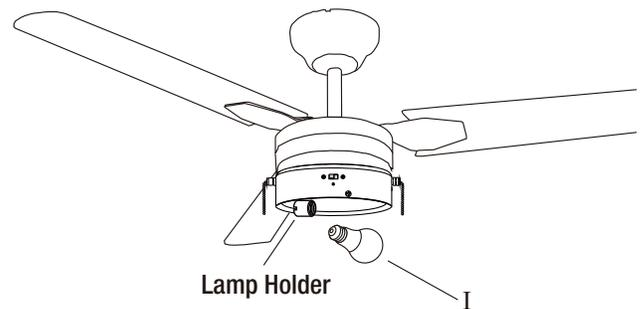

Figure 15
- Install a light bulb (I) (max. 9W, LED, medium screw base) to the lampholder (Figure 15).